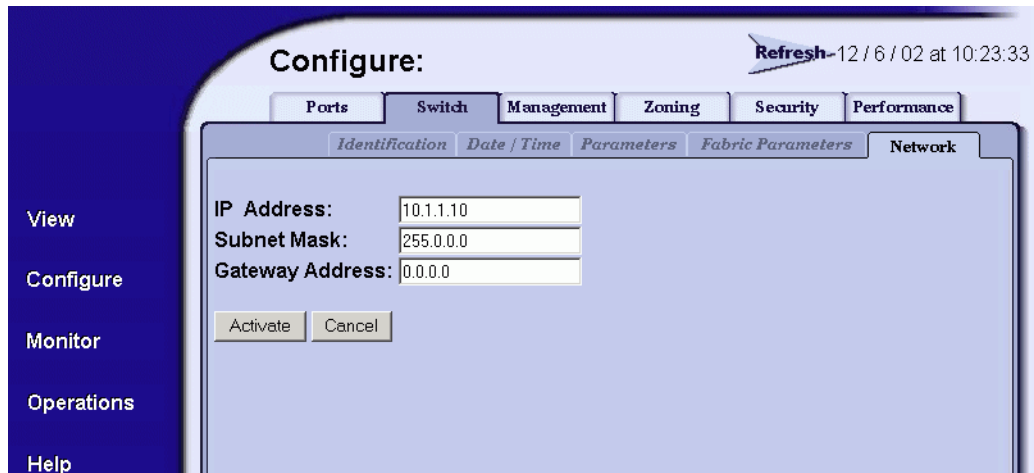

Figure 2-13 Configure Panel (Switch Page with Network Tab)
2. At the *Configure* panel, click the *Switch* tab, then click the *Network* tab. The *Switch* page displays with the *Network* tab selected (Figure 2-13).